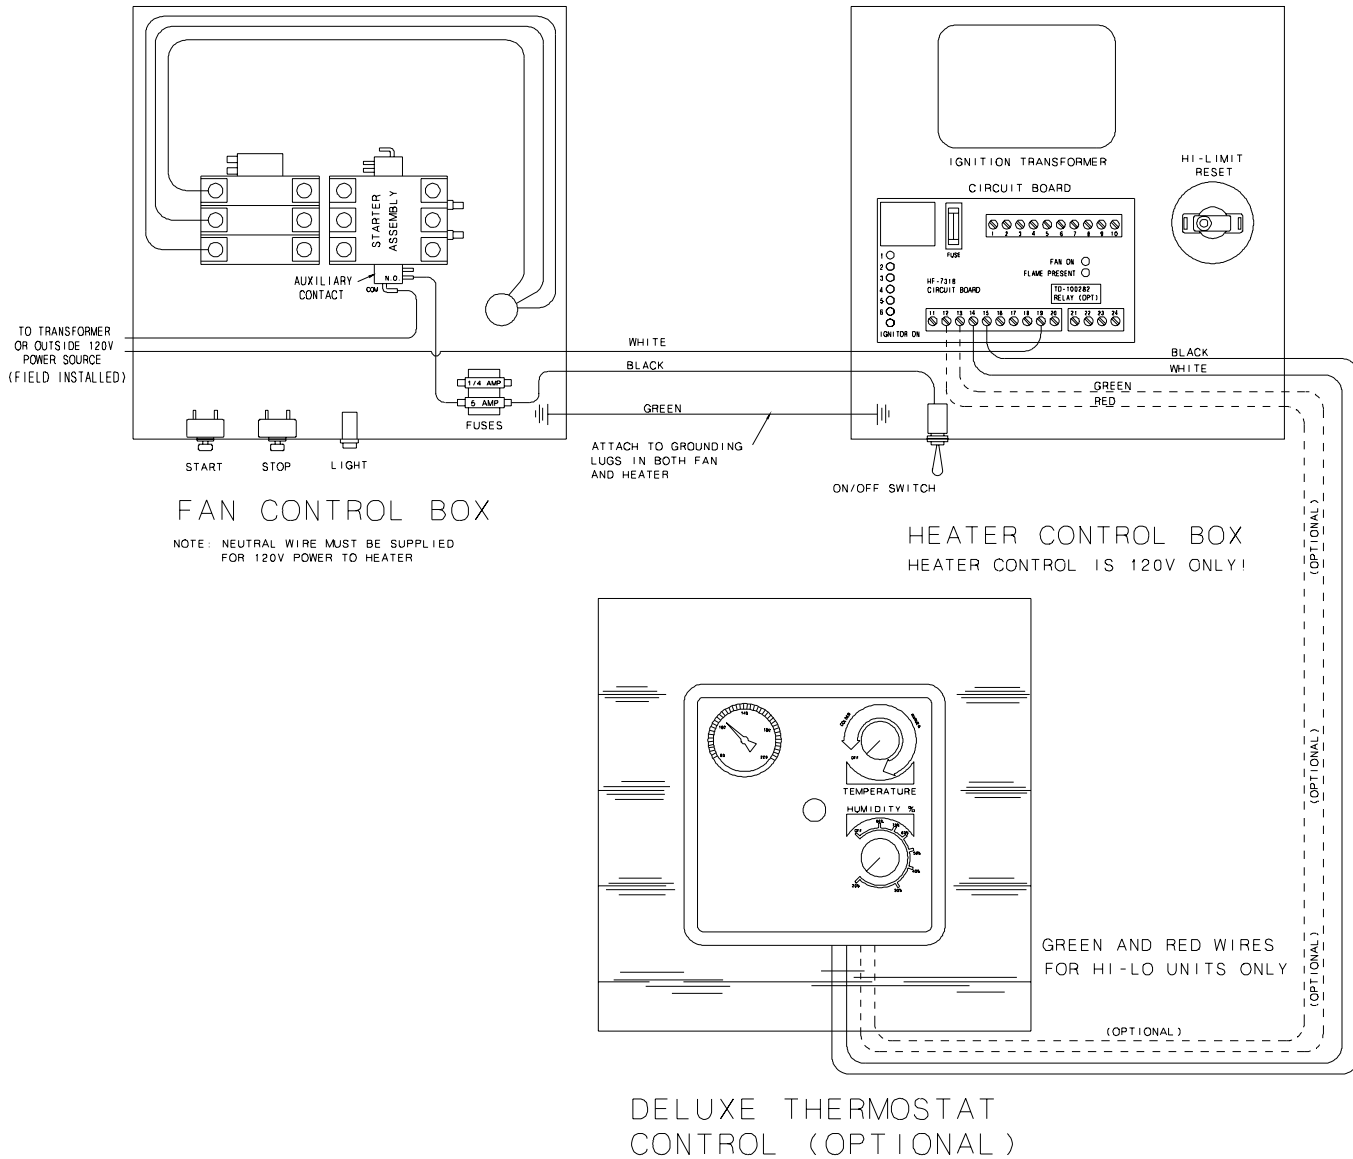

Figure 2: 460 volt fan control box.
2. Make field connections of wires in fan box as shown in Figure 2. 110V power supply or .5KVA 460V to 110V transformer must be used to supply power for heater. IMPORTANT! HEATER MUST BE INTER-LOCKED WITH FAN FOR SAFE OPERATION.
3. Connect deluxe thermostat control (optional) as shown in Figure 2. IMPORTANT! THERMOSTAT MUST BE INSTALLED FOR SAFE OPERATION.